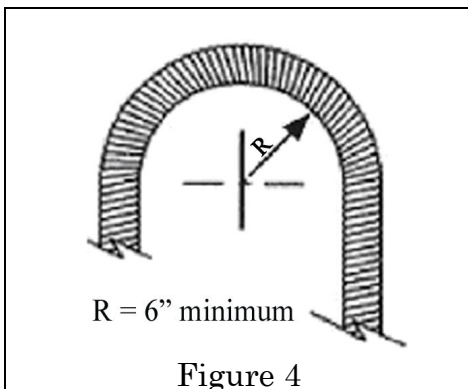

Figure 4
Step 4: Bend the flexible hose by hand to the desired route for sprinkler head placement. Minimum bend radius: 6". *Figure 4.* Maximum number of bends: not exceeding three (3) times. Do not bend within 2.5" of either end fitting.